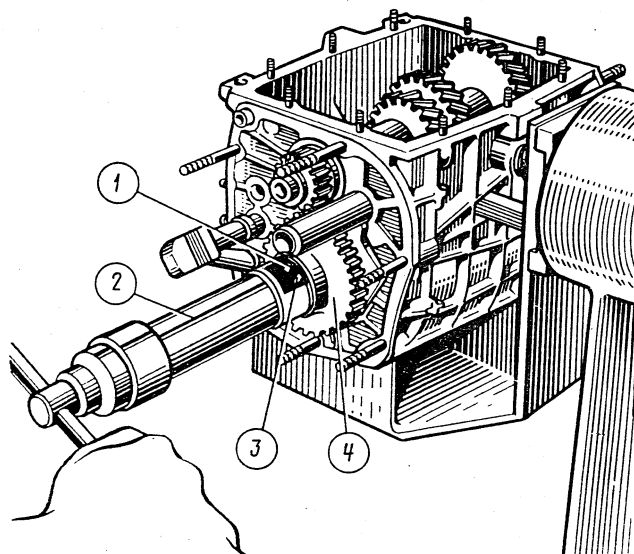

Fig. 3-30. Installing the Reverse Speed Gear Locking Ring on Main Shaft
- install the locking ring of the reverse speed gear, using tool 41.7816-4069 as shown in Fig. 3-30; when installing shaft bearings and glands, use mandrels 41.7853.4028, 41.7853.4032 and 41.7853.4039.